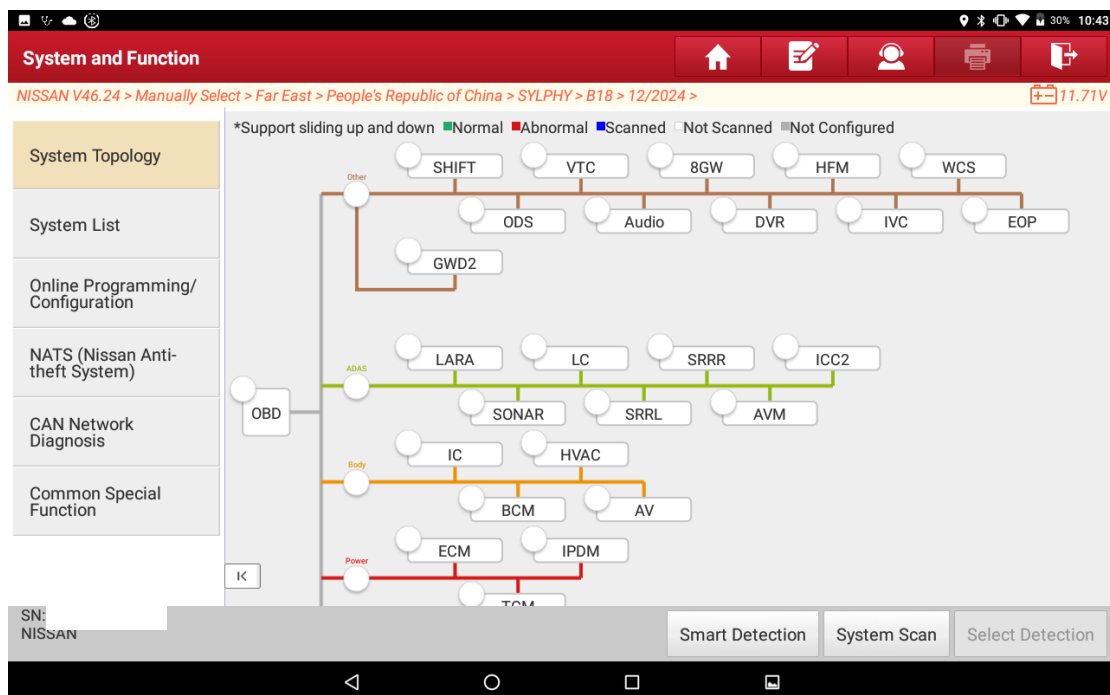

Figure 5
- Click [Manually Select], and choose [Far East] > [People's Republic of China] > [SYLPHY] > [B18] > [12/2024] to enter the vehicle model system interface (Figure 5).